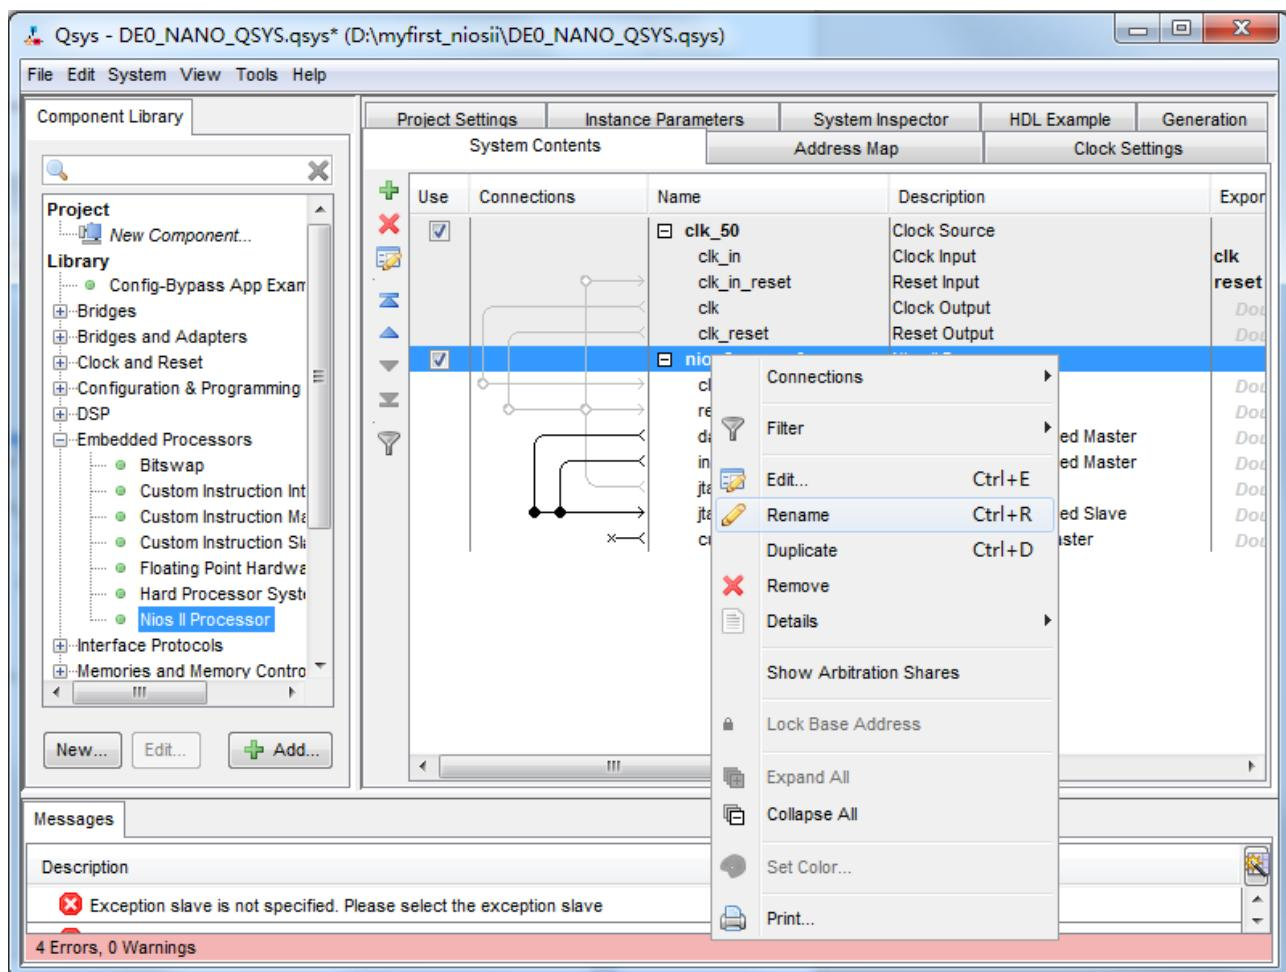
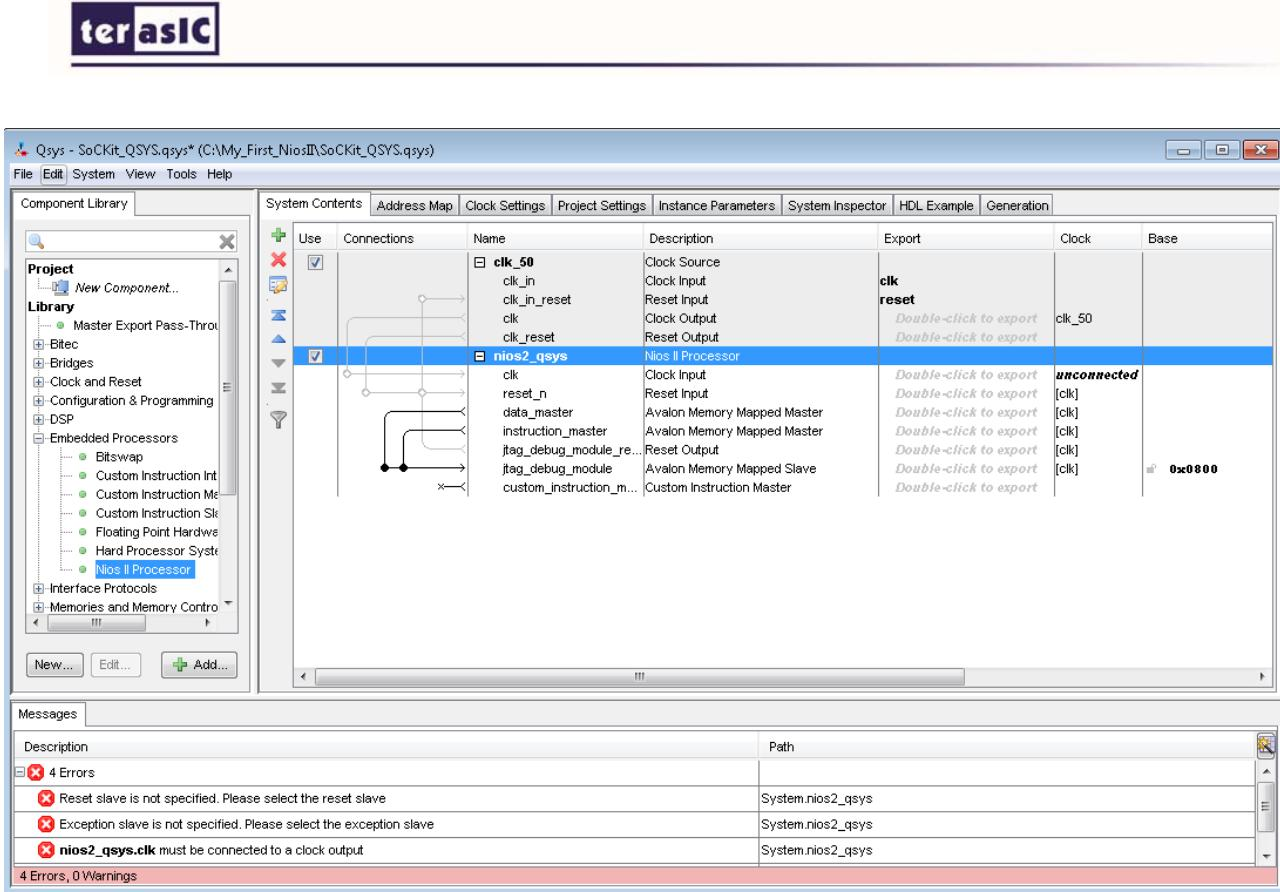

Figure 1-18 Rename CPU name (1)
Figure 1-19 Rename CPU Name (2)
11. Choose nios2_qsys_0 and right-click then choose rename, after this, you can update nios2_qsys_0 to cpu. See **Figure 1-18** and **Figure 1-19**.